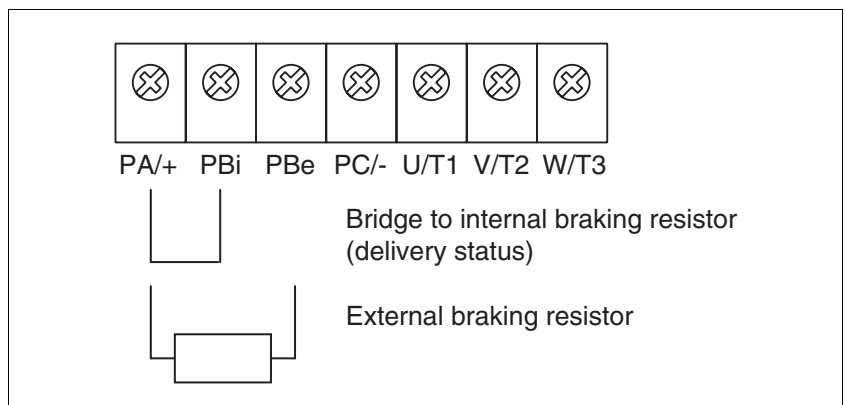

Figure 6.9 Wiring diagram, braking resistor
- ▶ Remove the jumper, see Figure 6.9.
- ▶ Connect the braking resistor to the device, see Figure 6.9.